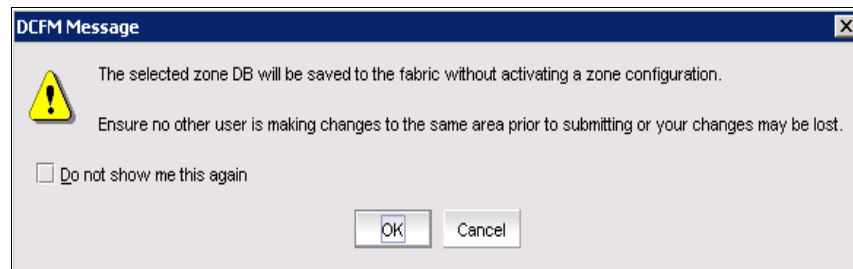

Figure 12-12 DCFM Message box
6. When this is completed, click **Apply** and/or **OK**. DCFM will save the changes in the fabric without activating it in the active config (Figure 12-12).